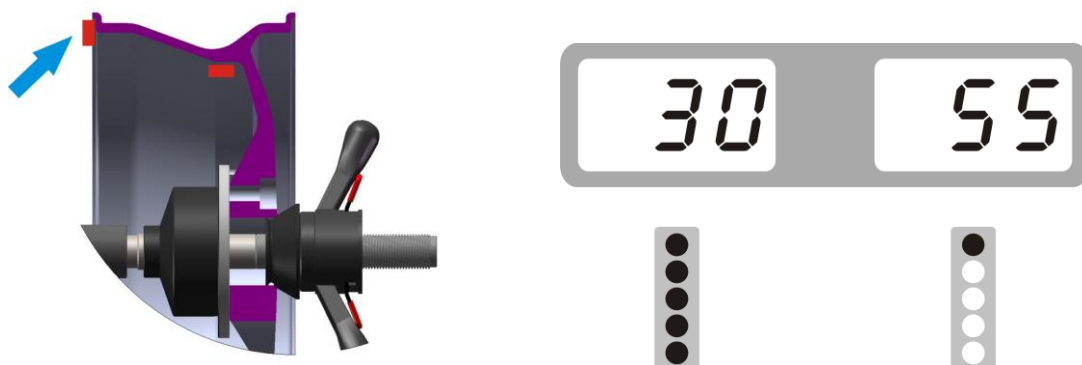

Fig.15
- 6) Slowly rotate the tire anticlockwise by hand until the inner imbalance indicator light is on. At this time, the 12 o'clock position on the inner side of the rim is the point for correcting the unbalance. Select the front side of the balance block according to below icon. Paste corresponding weight to the correction plane on the inner side of the spoke of the steel ring, as shown in Fig. 15.